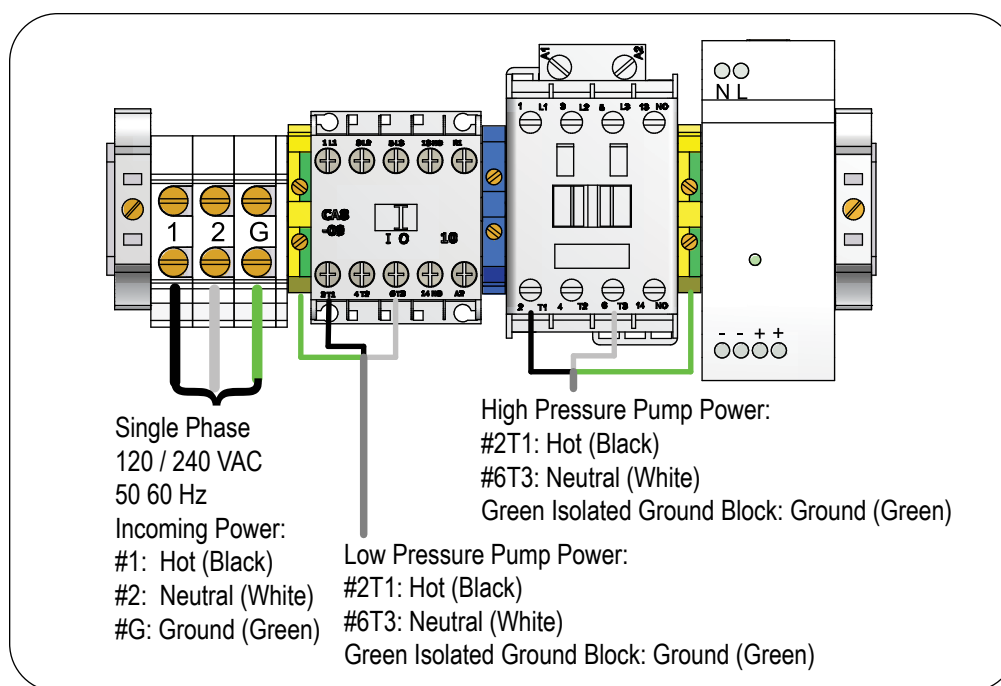

Figure 22: Wiring at the Connector Block (Single Phase)
For single phase power, attach the wires to terminals #2T1 and #6T3 of the LPP contactor, and #G to the green isolated ground block. See *Figure 22 on page 53*.
For single phase power, install wires to terminals #2T1 and #6T3 on the HPP contactor, and #G to the green isolated ground block. See Figure 22 on page 53.
- #1, #2, and #G for single phase power (*Figure 22 on page 53*)